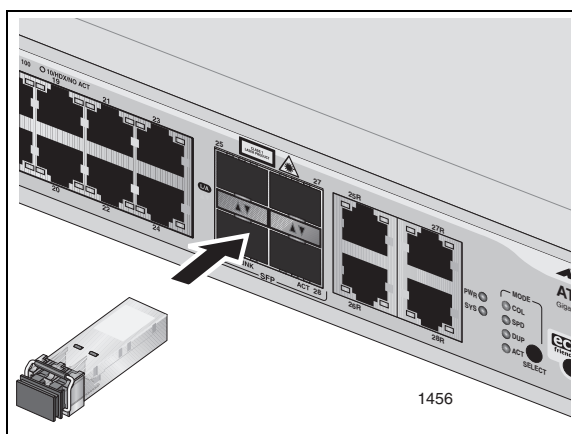

Figure 11. Inserting the Transceiver
- Slide the transceiver into the slot until it clicks into place as shown in Figure 11.